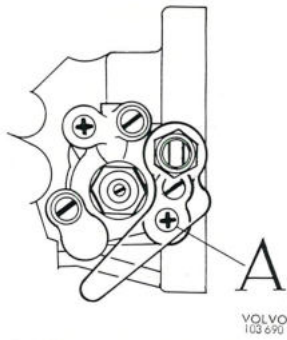

Fig. 2-104. Removing the screw
**N.B.** After the valve has been fitted on the carburettor, remove the screw (A, Fig. 2-104) on the by-pass valve. If the screw is not removed and it loosens, it will jam the cam so that the throttle cannot be closed. The only purpose the screw has is to keep the by-pass valve components together before being fitted on the carburettor.